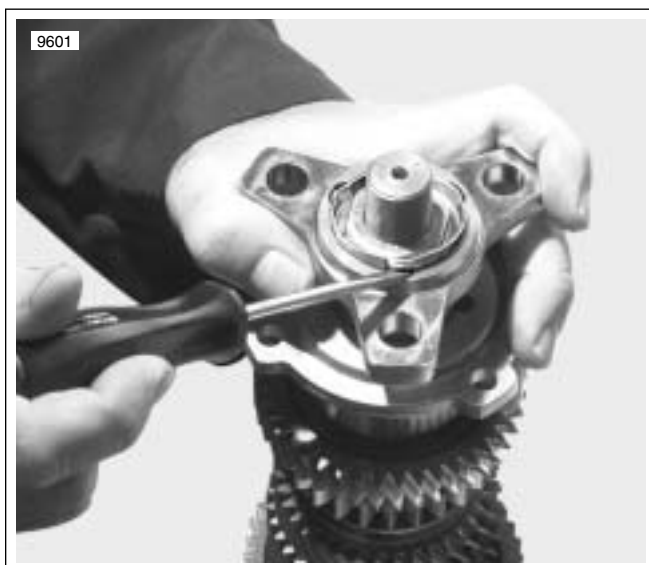

Figure 7-4. Output Shaft Lock Ring
1. See Figure 7-4. Remove lock ring from output flange nut.